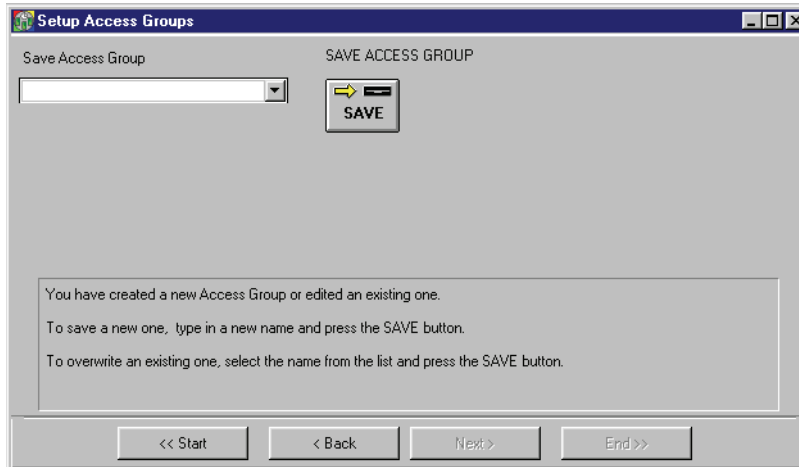

Figure 3-37: Save Access Group Window
13. Click on the  button and the Save Access Group window appears (see Figure 3-37).